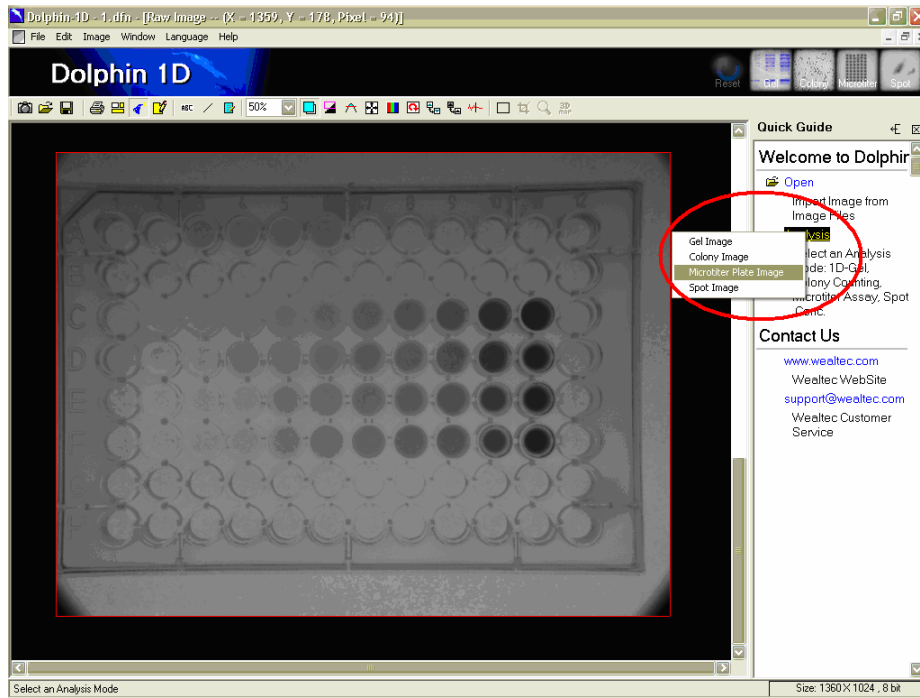

Figure 2. After capturing the image, choose "Microtiterplate Image" to enter the microtiter plate analysis mode
- **Analysis:** "Microtiter Plate Image" was chosen under "Edit", and the box for white background was ticked (*fig 2*). To open the microtiter assay tool, the monkey-wrench symbol (in the row of buttons above the image) was pressed. This tool can also be opened by choosing "Microtiter Plate tool" under "analysis" or pressing "Microtiter plate tools" in the quick guide window to the right of the captured image.